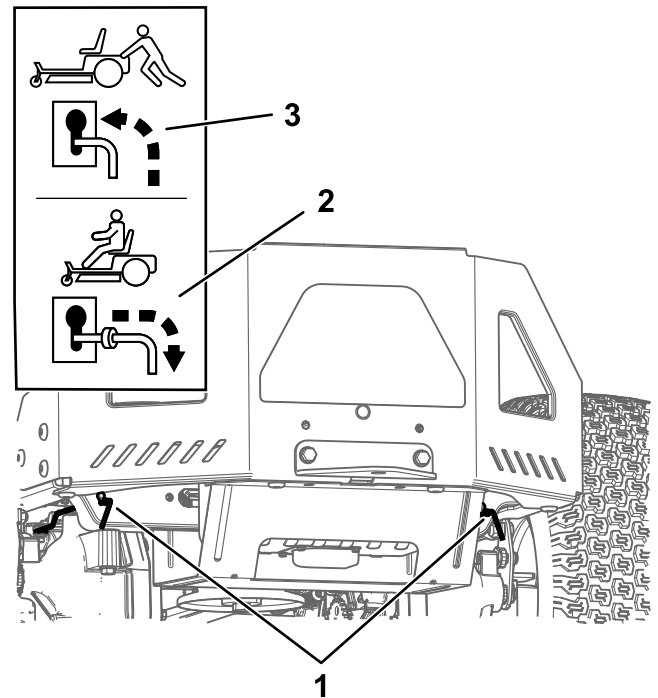

Figure 25
4. Move both bypass levers forward through the slotted hole and down to lock them in place (Figure 25).